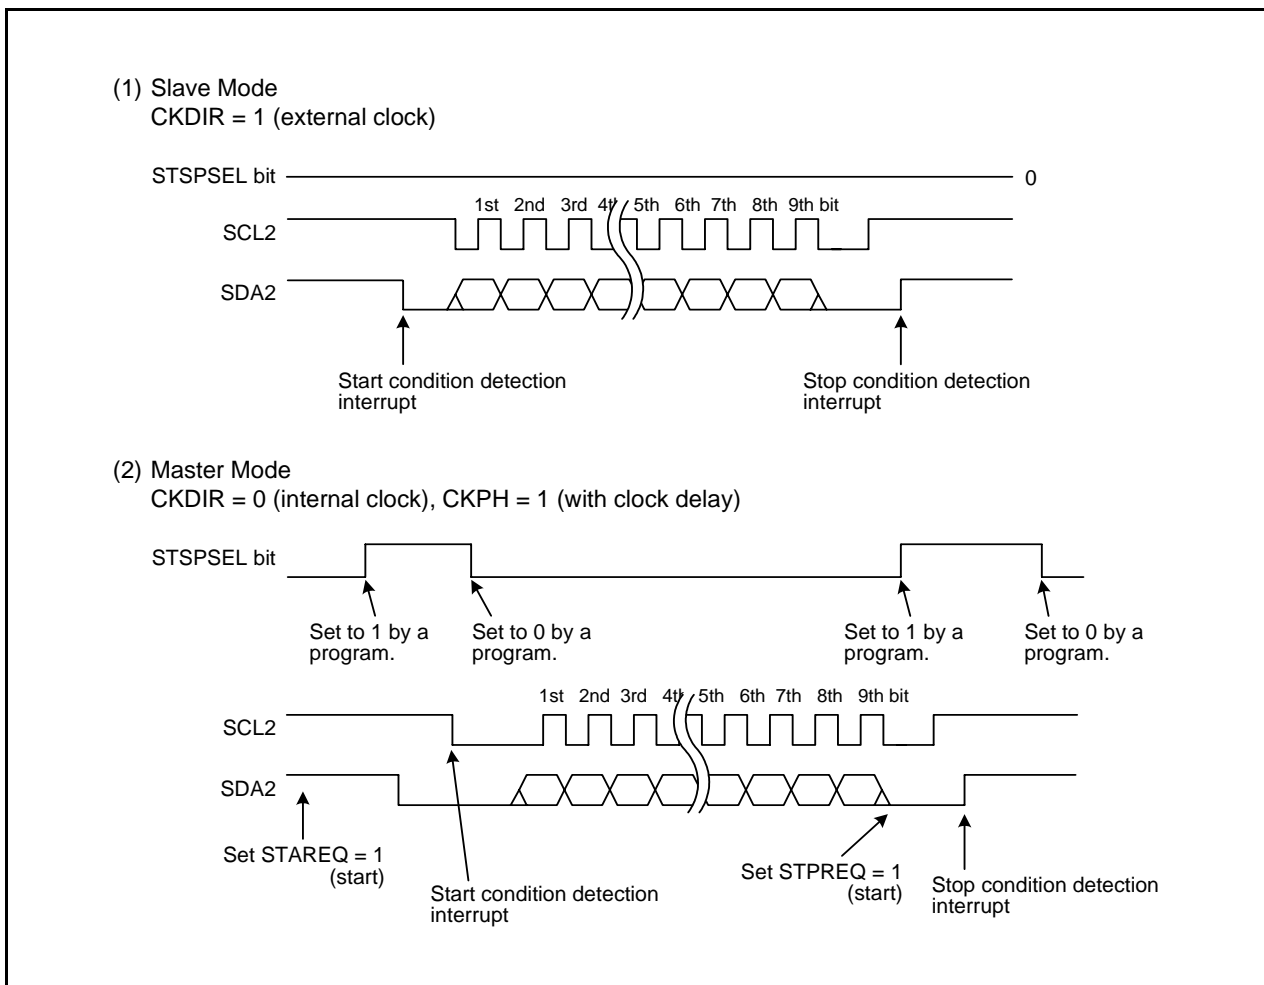

Figure 21.16 STSPSEL Bit Functions
- Refer to **Figure 21.16 STSPSEL Bit Functions**.
Table 21.13 lists the STSPSEL Bit Functions. Figure 21.16 shows the STSPSEL Bit Functions.